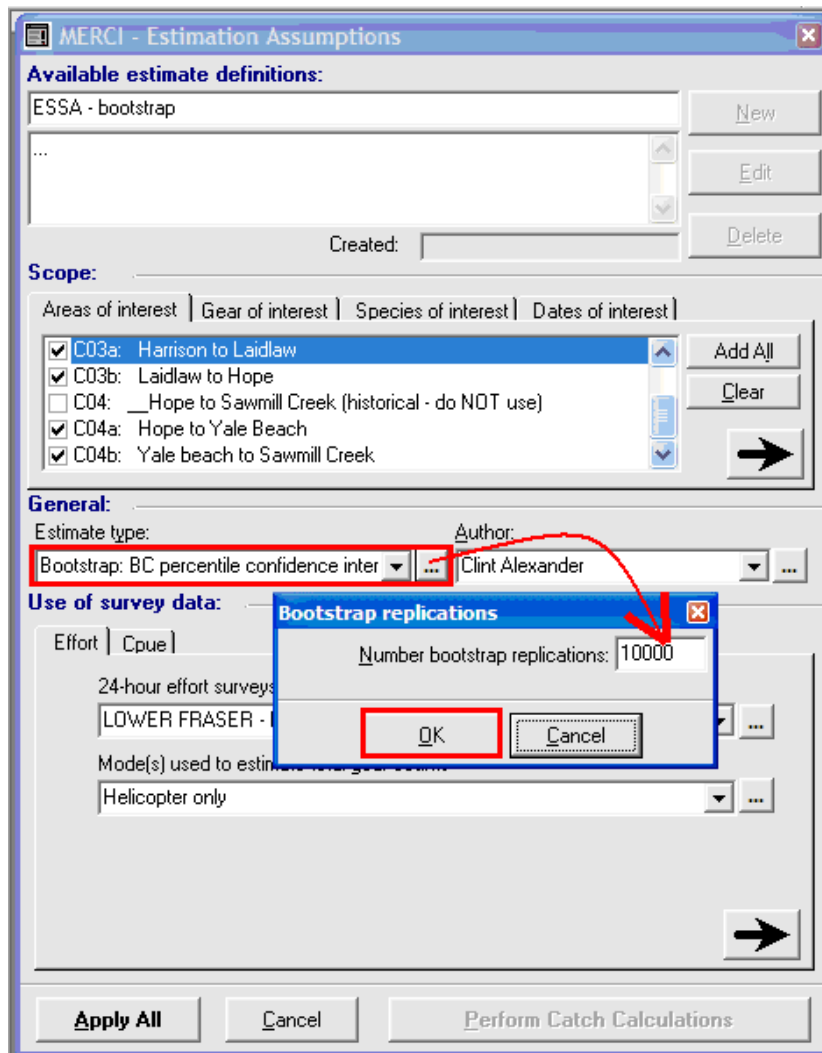

Figure 1: Estimate type feature determines whether bootstrap replicates will be generated.
4. Using a copy of the estimate definition from “1”, generate bootstrap replicates using MERCI (Figure 1);